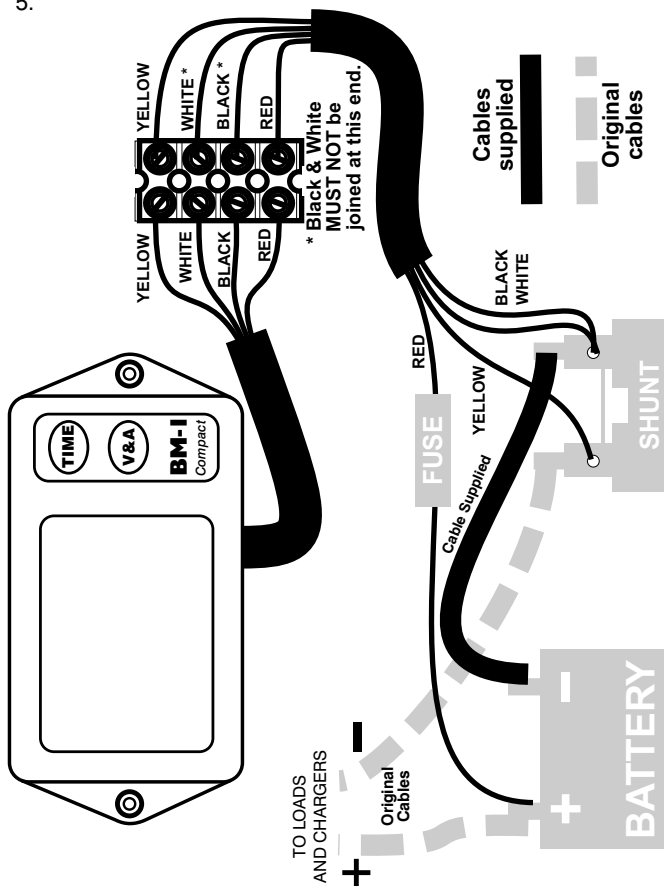

Figure 1 - Wiring Installation
3. Screw the unit to the panel and connect the wires to the terminal block provided. Connect the shunt cable to the display unit as shown on Figure 1, above, using the terminal block supplied. Be careful to connect the wires exactly as shown, noting that the black and white wires are joined at the shunt connection, and are connected separately at the instrument end of the cable.
7. Disconnect the **NEGATIVE** terminal from the battery and connect it to the shunt as shown in Figure 1.
8. Connect the Black and White wires and Yellow wire to the shunt as shown on Figure 1.
9. Connect the short link cable to the shunt and then to the negative terminal of the battery, as shown on Figure 1. Ensure it is positioned where it cannot come into electrical contact with other parts, and ensure it will remain dry and free from contaminants. Also note that the shunt can get warm when heavy currents flow, so ensure it is secured in a position where its heat cannot affect other parts.